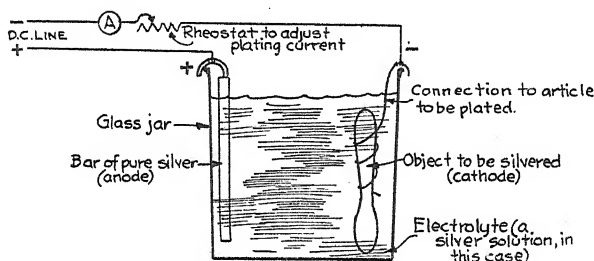

FIG. 36. Silver-plating process.
Figure 36 shows a diagram of a silver-plating tank. A rheostat generally is used to regulate the current so an even plate is produced. Such a setup as this is used to silver plate reflectors for automobile headlamps. When the plate has been built up to the desired smooth heavy surface, it is buffed and polished by a motor-driven polisher. When properly done, such electroplating will never loosen from the base metal under it.
**Experiment 17. Copperplating.** Objects may be copperplated in a manner similar to the scheme shown in Figure 36. The metal surface to be copperplated must be absolutely clean and bright, or the plating will be very poor and very uneven. Observe these rules: